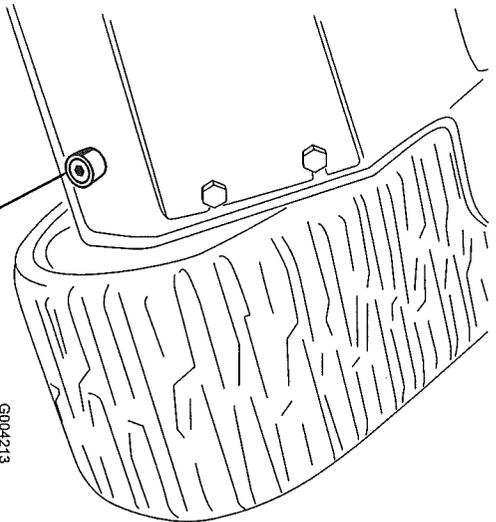

Figure 58
- Place a large drain pan (capable of holding 15 US gallons) under the drain plug on the front of the traction unit (Figure 58).
7. Remove the drain plug and allow the oil to drain into the pan (Figure 58).